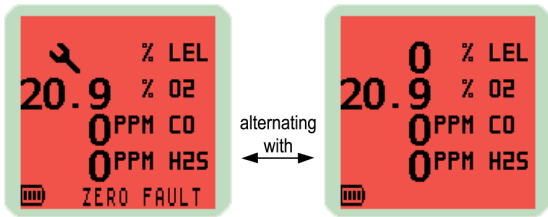

Fig. 4-9 Check Fault
2) If a "ZERO FAULT" warning and a flashing spanner symbol appear, alternating with a zero LEL reading as illustrated in Fig. 4-9, apply test gas for two minutes to allow the display to return to zero then switch instrument OFF and ON again. If fault remains, return instrument to a GMI approved Service / Repair facility.